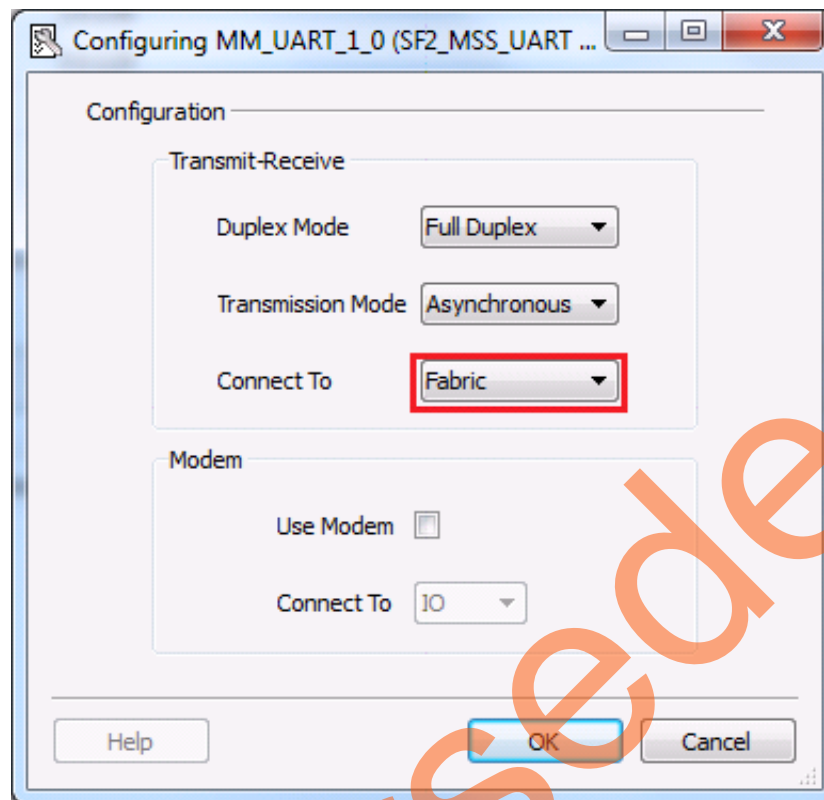

Figure 9 • Configuring MM_UART_1
12. In the MM_UART_1 configurator window, select **Fabric** from the **Connect To** drop-down list, as shown in Figure 9.